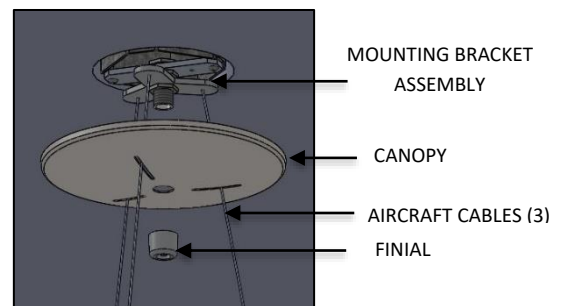

FIG. 10 – CANOPY INSTALLATION
4. Feed the remaining AIRCRAFT CABLES (3) from the MOUNTING BRACKET ASSEMBLY through the slots of the CANOPY. Loosely secure CANOPY to the ceiling by threading the FINIAL to the MOUNTING BRACKET ASSEMBLY as shown below in FIG. 10.